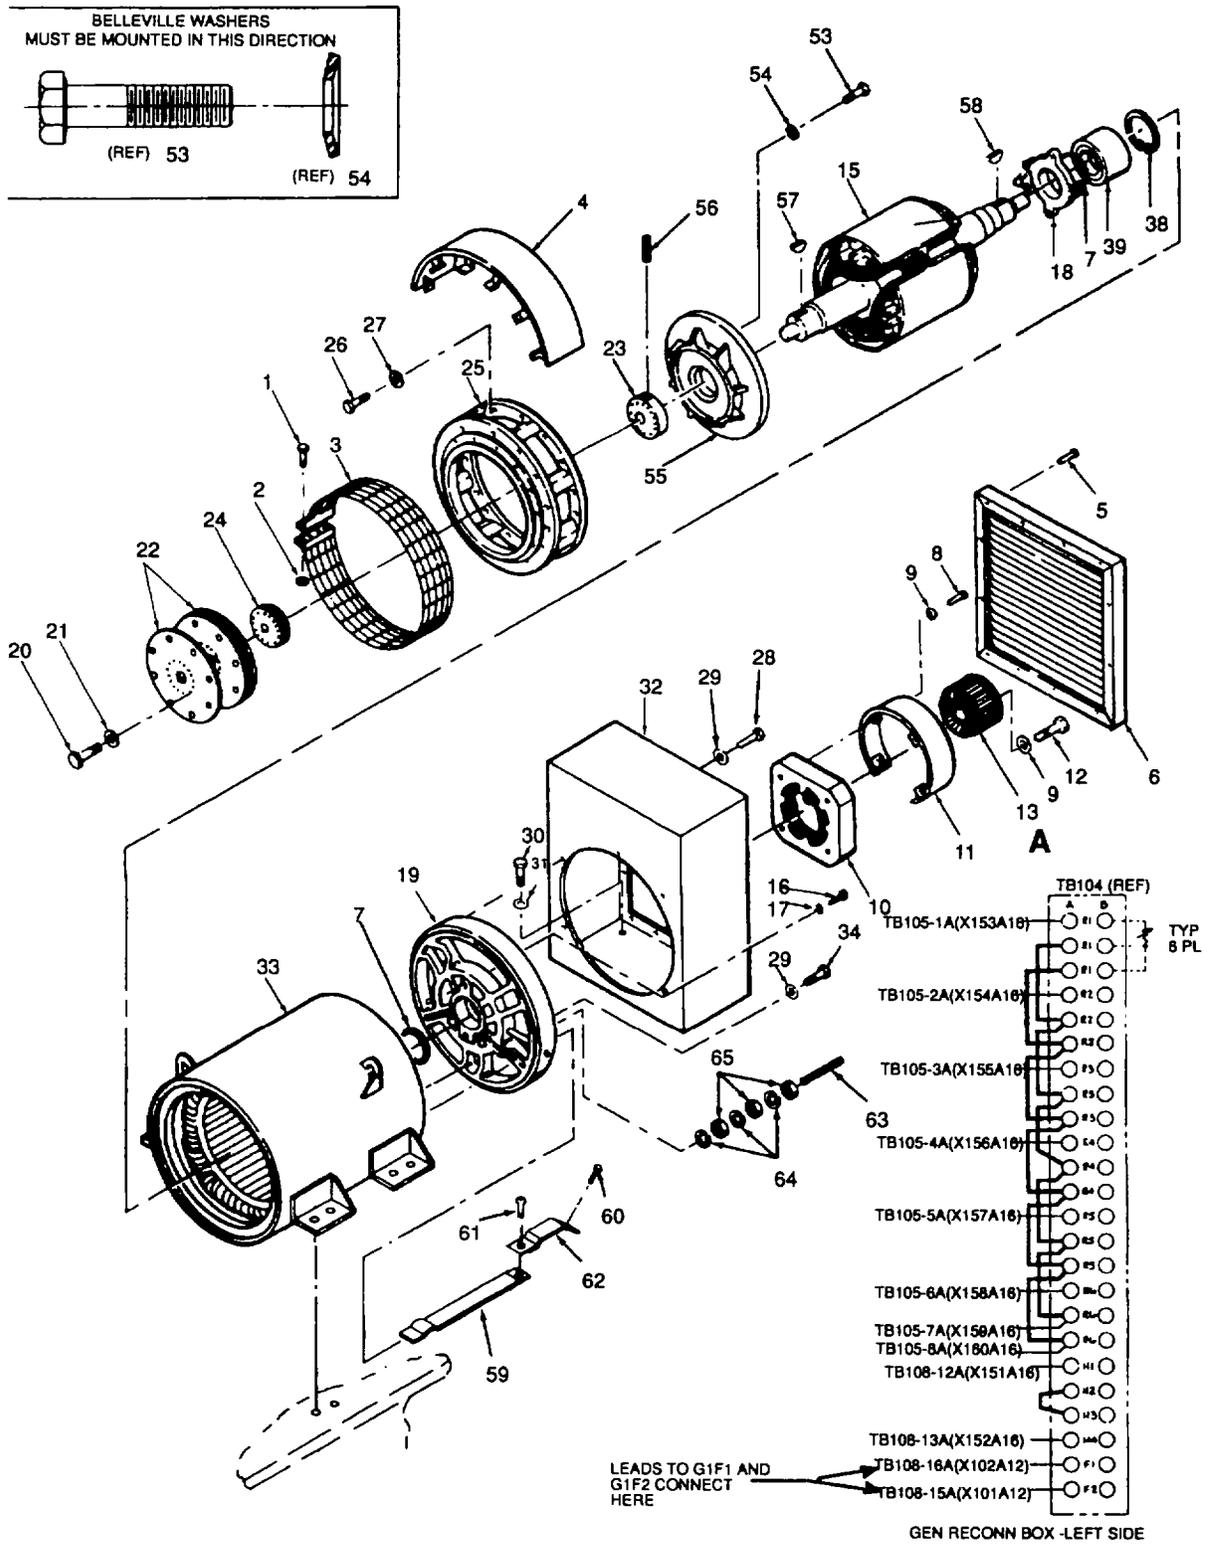

Figure 5-1. Generator G1 and Related Parts (Sheet 1 of 3)
- (1) Perform steps (1) through (3), above.
- (2) See Figure 5-1. Remove conduit box cover assembly (6) by removing hexagon head screws (5).
- (3) Tag and disconnect the two generator field leads coming out of keyway in the rotor shaft. These leads connect to each of the two rectifier angles on the rotating rectifier assembly. See detail A, Figure 5-1.
- (4) Obtain a 500 V dc megohmmeter. Make sure neither of the two field leads disconnected in step (3), above, touch any other part. Connect one megohmmeter lead to one field lead and the other megohmmeter black lead to the aluminum standoff casting (behind insulation plate on exciter rotor) or to any suitable chassis ground. Operate the megohmmeter for 60 seconds and monitor the resistance reading. Discharge the main rotor field with grounding stick after performing test.
- (5) Resistance reading should be no less than 2 megohms. Clean, dry, repair, or replace the main rotor assembly as required if reading is lower than 2 megohms.
- (6) Reconnect rotor field leads to the rotating rectifier assembly as tagged. Remove and discard tags.
- (7) Reinstall the conduit box cover assembly (6, Figure 5-1) using hexagon head screws (5).
- (1) Perform steps a(1) through (3), above.
- (2) Remove generator conduit box cover assembly (6, Figure 5-1) by removing hexagon head screws (5).